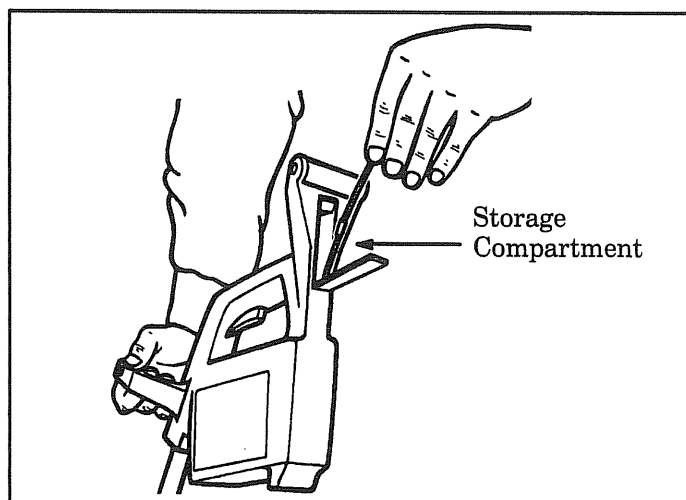

Figure 5
5. Store extra line cartridges in the cartridge storage compartment in the rear of the unit. See Figure 5 in the "MAINTENANCE/STORAGE" section.
7. Store extra line cartridges in the storage compartment in the rear of the unit. Figure 5.